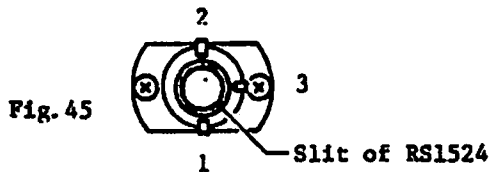

Fig. 45
1. Slit of Pipe (RS1524) is positioned to the direction as shown in Fig.45.
2. Adjust the mesh for Pinion shaft and Rack plate by fixing screws ① and ②
3. Adjust the longitudinal play and torque of Pinion shaft by fixing screw ③.